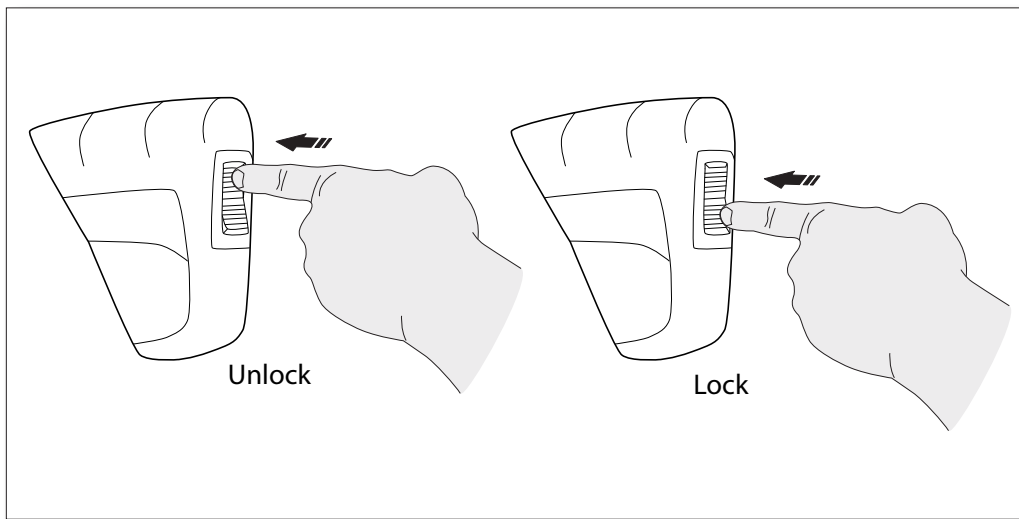

Fig. 20
- Release the safety lock button on the spray gun by pressing the safety lock button to the left (**Fig. 20**). While pointing the spray gun in a safe direction, squeeze the trigger gun until there is a steady stream of water, letting the water and air out of the gun.